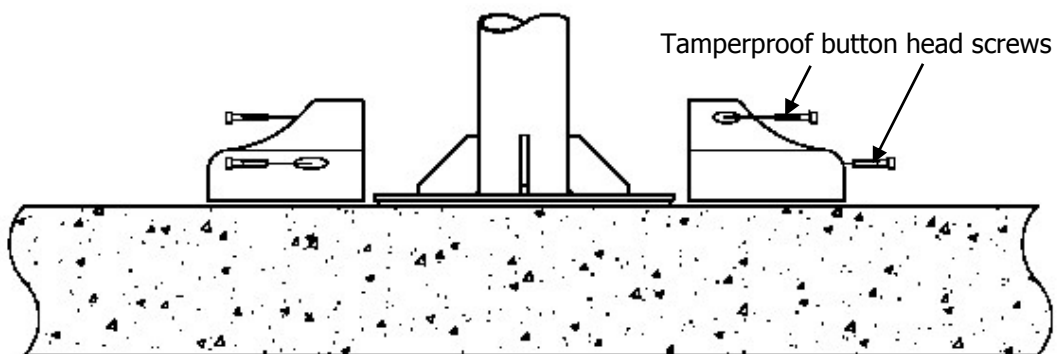

Figure 5: Base cover
- Following installation of the pole, a base cover is installed to hide the floor fixing bolts. Apply "Loctite" to the 4 x M6 x 35 tamperproof button head screws shown in Figure 5.